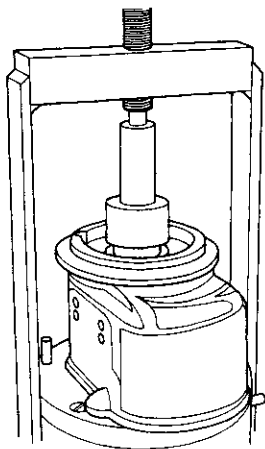

Figure 7.3
- Press the oil seal flush into the frame using the oil seal assembly plug (T-103) and the T-handle screw. (See Figure 7.3).